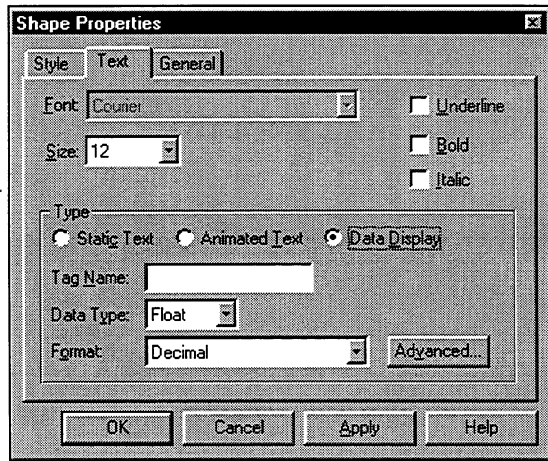

Figure 6-13. Data Display Text Properties Page in Shape Properties Form
4. When you release the left mouse button, the Shape Properties form opens, with the Text page active, as shown in Figure 6-13.
6. Choose the Data Display option from the Type group. The Data Display options appear, as shown in Figure 6-13.